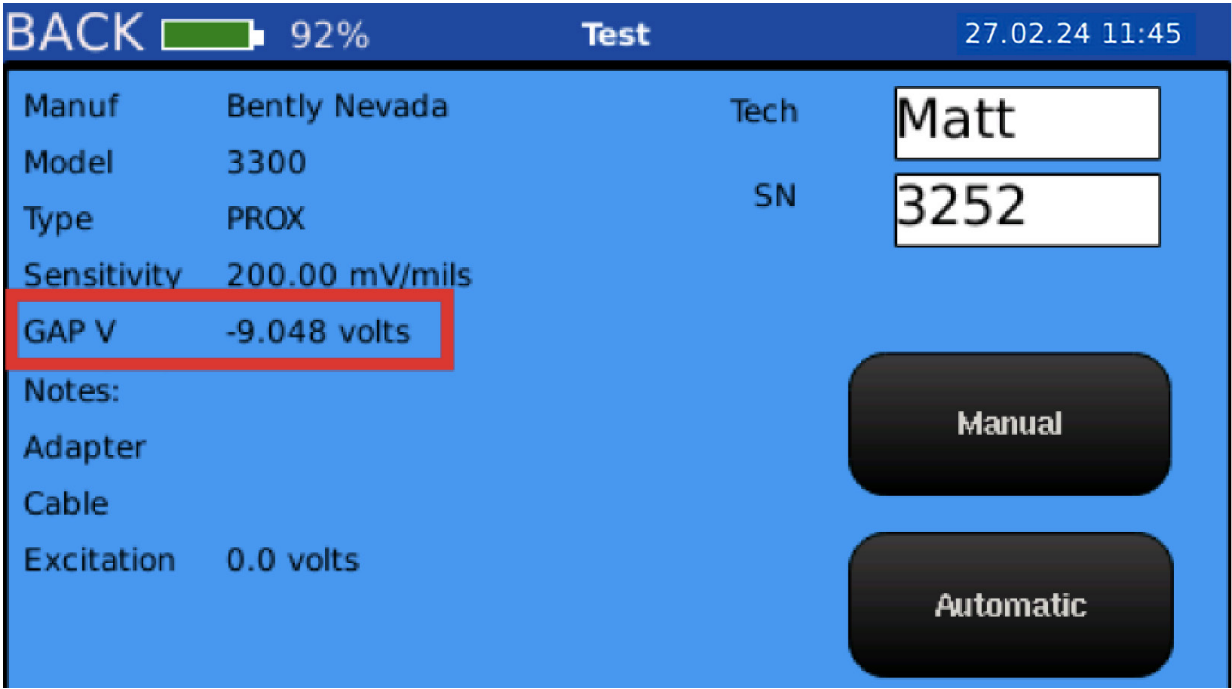

Figure 47. Sensor profile screen for the proximity probe
- 10. Locate the gap voltage, shown as "GAP V", on the sensor profile screen (*Figure 47*). The gap voltage is the DC voltage measurement from the probe/driver and is shown as a negative value.
- 13. Select the **Manual button** or **Automatic button** on the sensor profile screen (*Figure 47*).